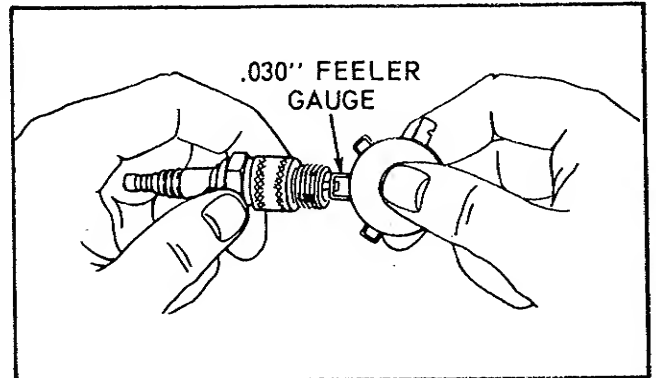

Figure 31. Setting spark plug gap.
**CLEAN AND REPLACE SPARK PLUG:** See figure 31. Every 100 hours the spark plug should be removed, cleaned, and the gap reset at .30". When the spark plug is worn out, replace it with AC GC 46, Autolight A 71 or Champion J-8. **CAUTION: BLAST CLEANING OF SPARK PLUGS IN MACHINES THAT USE ABRASIVE GRIT IS NOT RECOMMENDED. SPARK PLUGS SHOULD BE CLEANED BY SCRAPING OR WIRE BRUSHING, AND WASHING WITH A COMMERCIAL SOLVENT OR GASOLINE.**